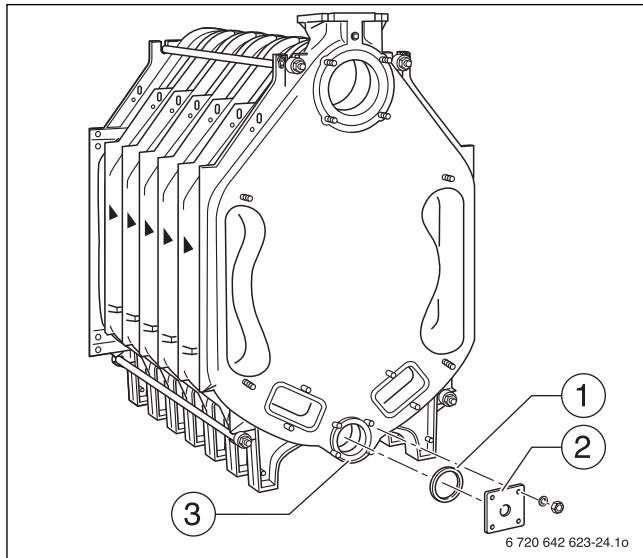

Fig. 26 Fitting the flange
- ▶ Close off lower boiler hub (→ Fig. 26, [3]) at the front and rear. To do this, place corresponding seal (→ Fig. 26, [1]) on the relevant boiler hub and screw on flange cover with edge length 4 21/64 inches (110 mm). In this case, the flange with the tapped hole (R ¾) for the fill and drain connection (→ Fig. 26, [2]) is mounted on the rear of the boiler.